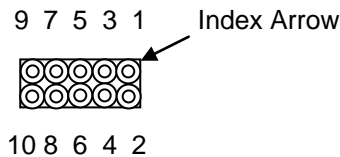

Figure 120. View of main board socket J19 or top view of calibration cable
- ❶ Remove the top cover of the LCM
- ❷ Connect the LCM Standard Resistor calibration cable to the LCM main board socket J19. The calibration cable and main board socket are indexed, make sure that they are aligned and connected correctly.
- ❸ Connect the four wires of the Standard Resistor calibration cable to a reference multimeter as outlined in Figure 120, pins 1 thru 4 for the 100 Ohm resistor and pins 5 thru 8 for the 110 Ohm resistor.
- ❹ Record the measured resistance for each second resistor.
- ❺ Use GFS Tools [Tools], [Remote Communications] to set up communications with the LCM and send the command "ISTDRES" and the current values for the 100 and 110 Ohm standard resistors will be returned. The two additional comma delimited values returned beyond the resistances should remain unchanged during all of these steps.
- ❻ If the returned values disagree with the current measured values by more than $\pm 0.01\%$, use the [Remote Communications] to send the command "ISTDRES=xxx.xxx, yyy.yyy" where:
- ❼ Remove the calibration cable, replace the top of the LCM and cycle the power.